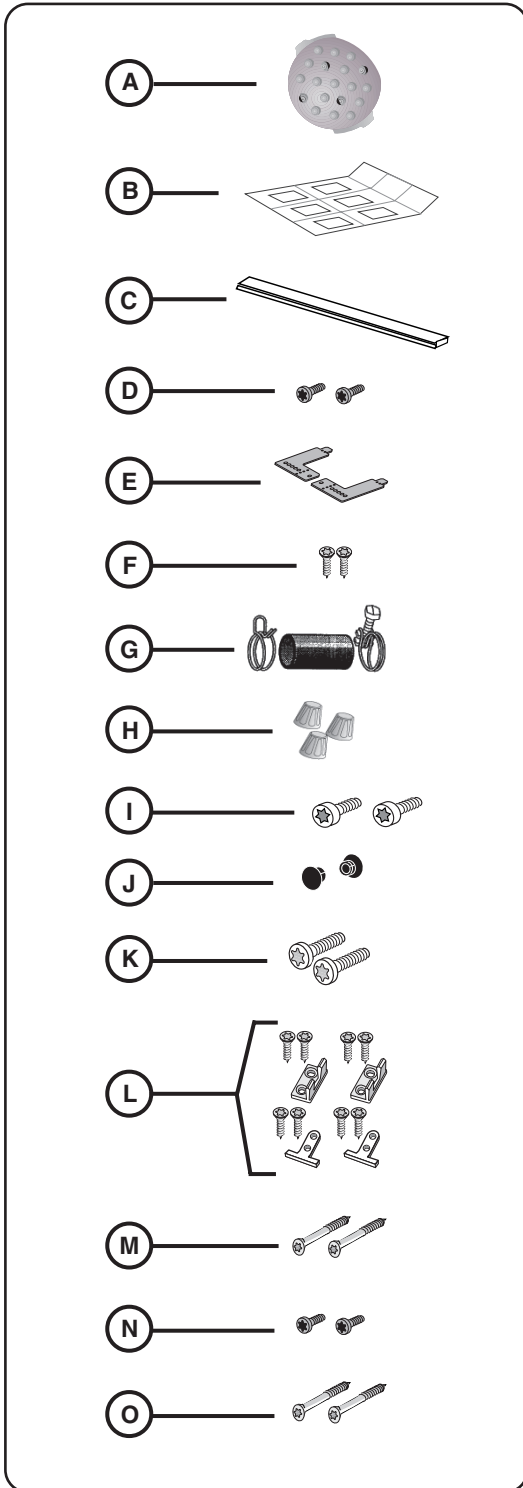

Figure 1
Accessory Parts for your dishwasher will come in one or more plastic bags. Check to make sure that the parts shown in Figure 1 are included with your model. If any parts are missing, contact your dealer immediately.
- Extra Tall Item Sprinkler (Fig. 1, letter A)
DWHD94BF also has SHI/SHV a Panel Installation Template Sheet (Figure 1, letter B).
DWHD94BP and DWHD94BS also have a Cotton Insulation Strip (Figure 1, letter C).